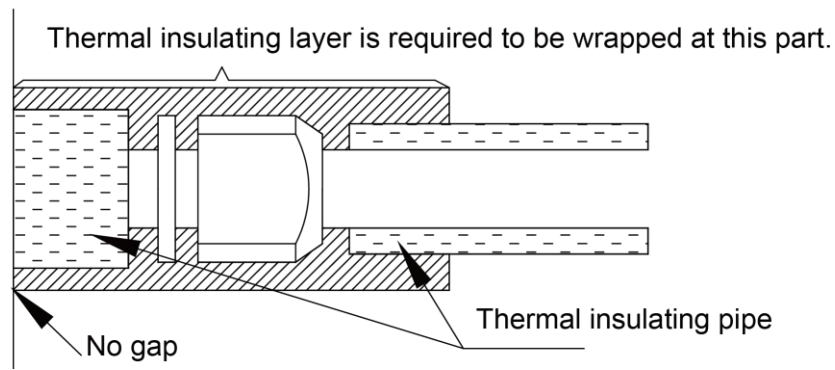

Fig.18
3) Joints of indoor and outdoor unit should be wrapped with insulating material and leave no gap between pipe and wall. See Fig.18.